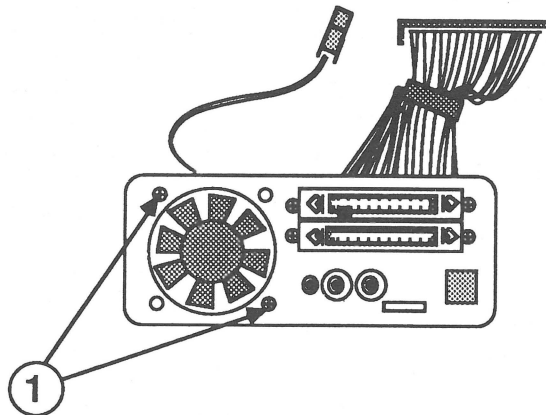

FIGURE 10
3. Remove the two screws (Figure 10, #1) that secure the fan to the frame, and lift the fan free.